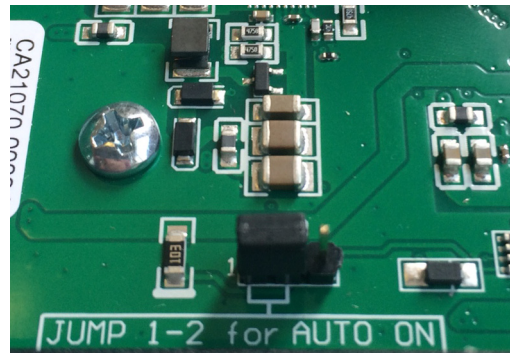

Figure 9-30: Move the jumper to position 1-2 for Auto-on mode.
- 5 Move the jumper to pins 1-2, as shown in Figure 9-30.